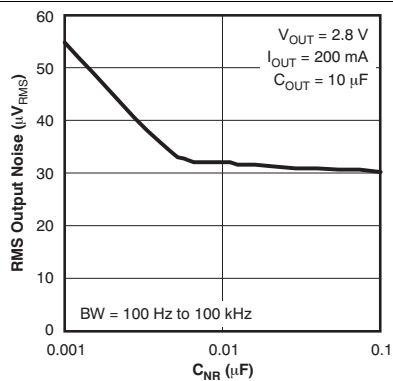

Figure 5. Root Mean Square Output Noise vs  $C_{NR}$
• Corrected units in y-axis of <a href="#">Figure 5</a> .....	6